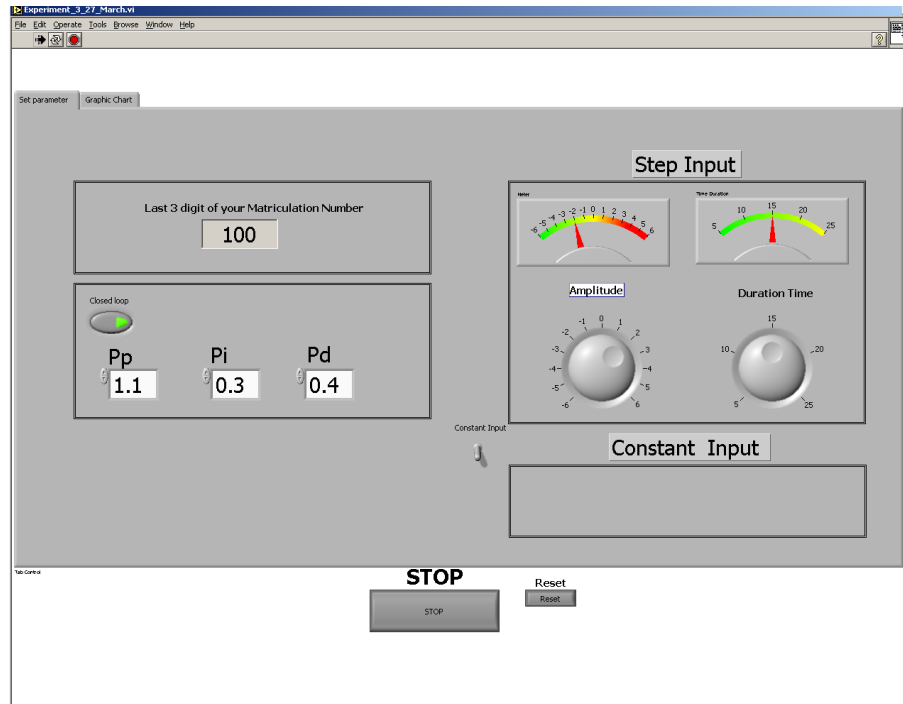

Figure 1: GUI for DC-motor experiment
3. You are prompted to enter the last three (3) digits of your student ID number. After entering the number, you can use the GUI that is shown in Figure 1. You can switch between two windows: